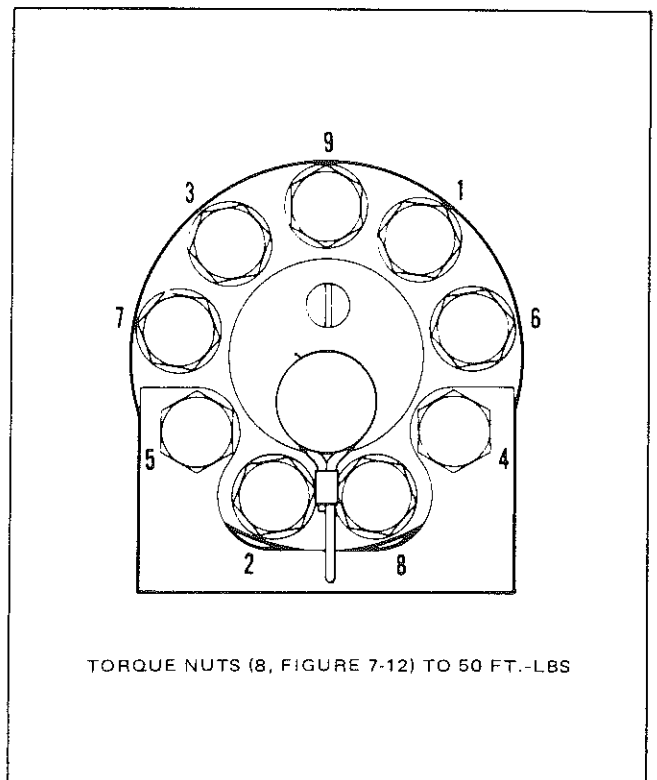

Figure 6-2. Fluid Separator Torque Sequence
2. Install spring (20) and valve (18) in port of body (24).
3. Insert new diaphragm (17) in bore of body. Make certain that diaphragm lip seats in body groove.
4. Insert spring (16) and valve (14) in port of head (12). Install valve retainer (13) to hold parts in place.
5. Place head (12) and assembled parts in position on body (24). Install brackets (11), bolts (10), washers (9), and nuts (8).
6. Tighten nuts (8) to a torque value of 50 foot-pounds in the sequence shown in figure 6-2.
7. Install adapter (3) into body (24).
8. Install ring on loose end of chain on dust cover (1) on adapter (3) and install socket assembly (2) on adapter.
9. Install probe (5) and dust cover (4) on head (12).